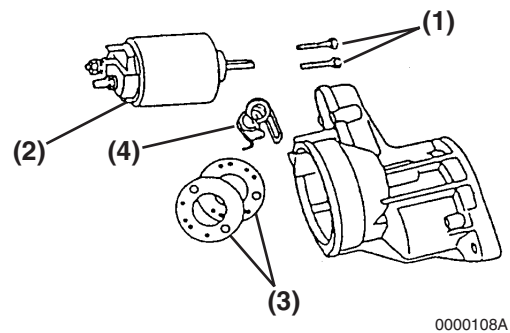

Figure 11-7
- Remove the two M6 bolts (**Figure 11-7, (1)**) retaining the magnetic switch assembly (**Figure 11-7, (2)**) to the gear housing. Remove the magnetic switch assembly, dust cover(s) (**Figure 11-7, (3)**) and torsion spring (**Figure 11-7, (4)**) from the gear housing.